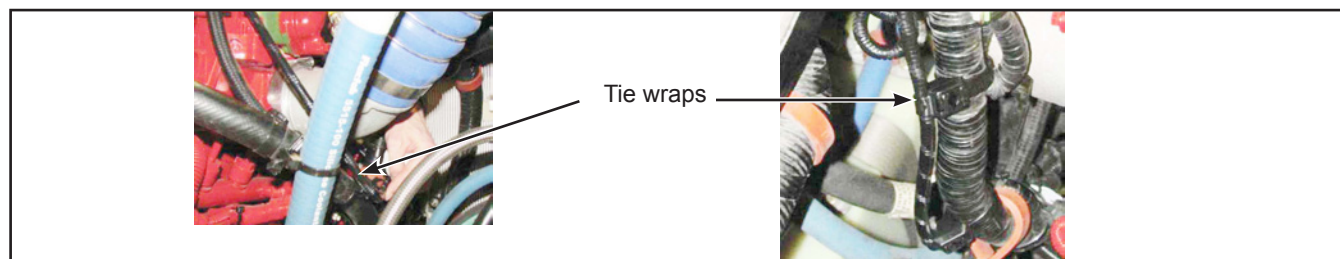

Figure 9 - Tie Wraps Affixing Location
- 1.16. Affix the new electrical harness to the main electrical harness with tie wraps. See Figure 9.
- 1.17. Affix the excess length of the electrical harness to the main electrical harness as shown in Figure 9.
- 1.18. Affix the female portion of the connector to the main electrical harness with a tie wrap. See Figure 9.